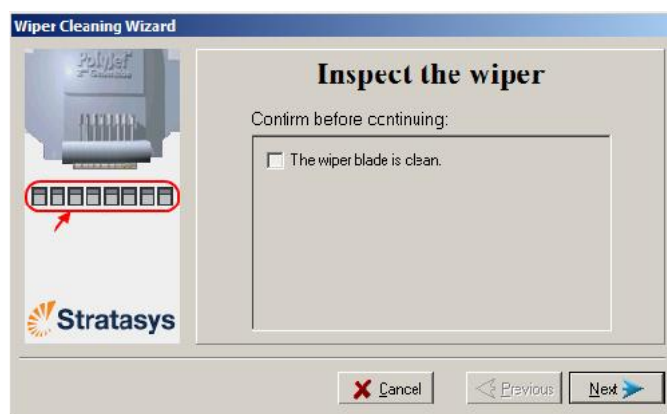

Figure 6-26: Wiper Cleaning Wizard during steps 6–9
- In the wizard screen (see figure 6-26), confirm that the wiper blade is clean, and click **Next**.